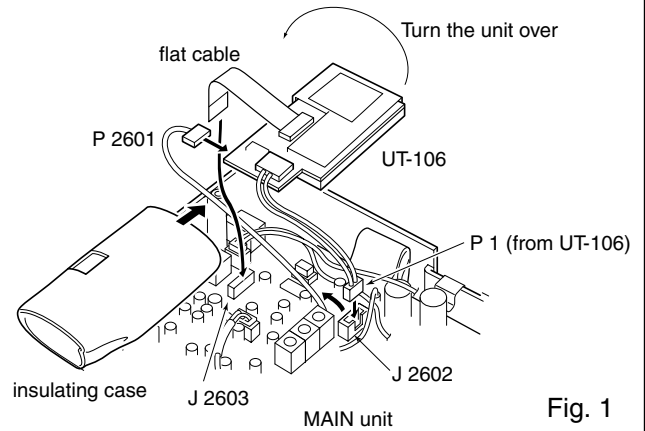
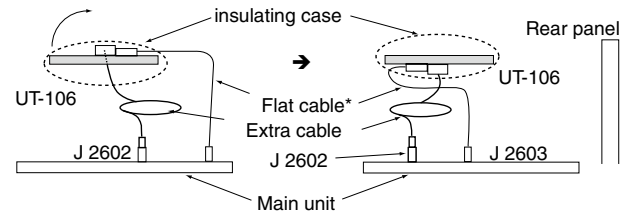

Fig. 1
Fig. 2
- ① Remove the bottom cover.
- ② Slide the insulating case onto the UT-106 as shown to the right. (Fig. 1)
- ③ Remove the connection cable (P2601) from J2602 on the MAIN unit. Connect the cable into J1 on the UT-106.
- ④ Plug the connection cable (P1) from the UT-106 to J2602 on the MAIN unit.
- ⑤ Plug the flat cable into J3 on the UT-106 and to J2603 on the MAIN unit.
- ⑥ Turn the UT-106 unit over. (Fig. 2)
- ⑦ Put the UT-106 on the MAIN unit.
- ⑧ Return the bottom cover to its original position.